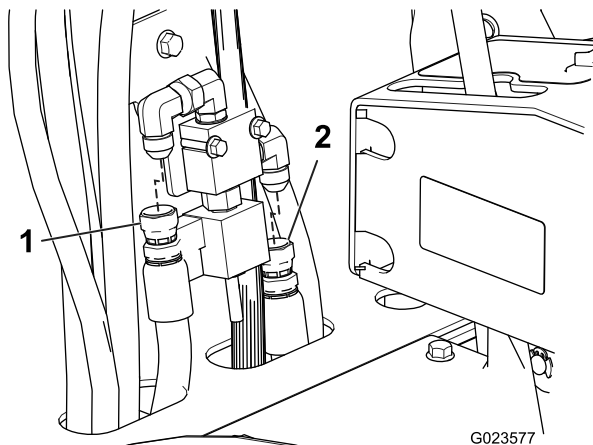

Figure 6
3. Thread the hydraulic hoses down through the openings in the floor under the valve (Figure 6), routing one on each side of the main hydraulic manifold under the floor.
4. Connect the ends of the hoses to the open ends of the 90-degree fittings on the valve (Figure 6).